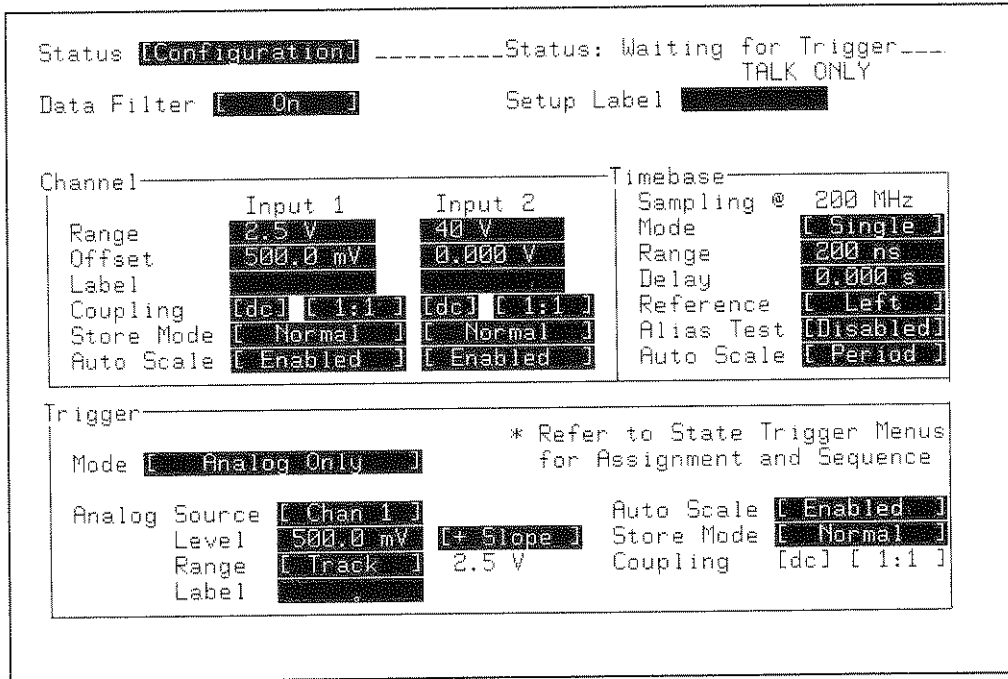

Figure 9-9. STATUS Configuration Menu
2. Configure STATUS Configuration menu as shown in figure 9-9.